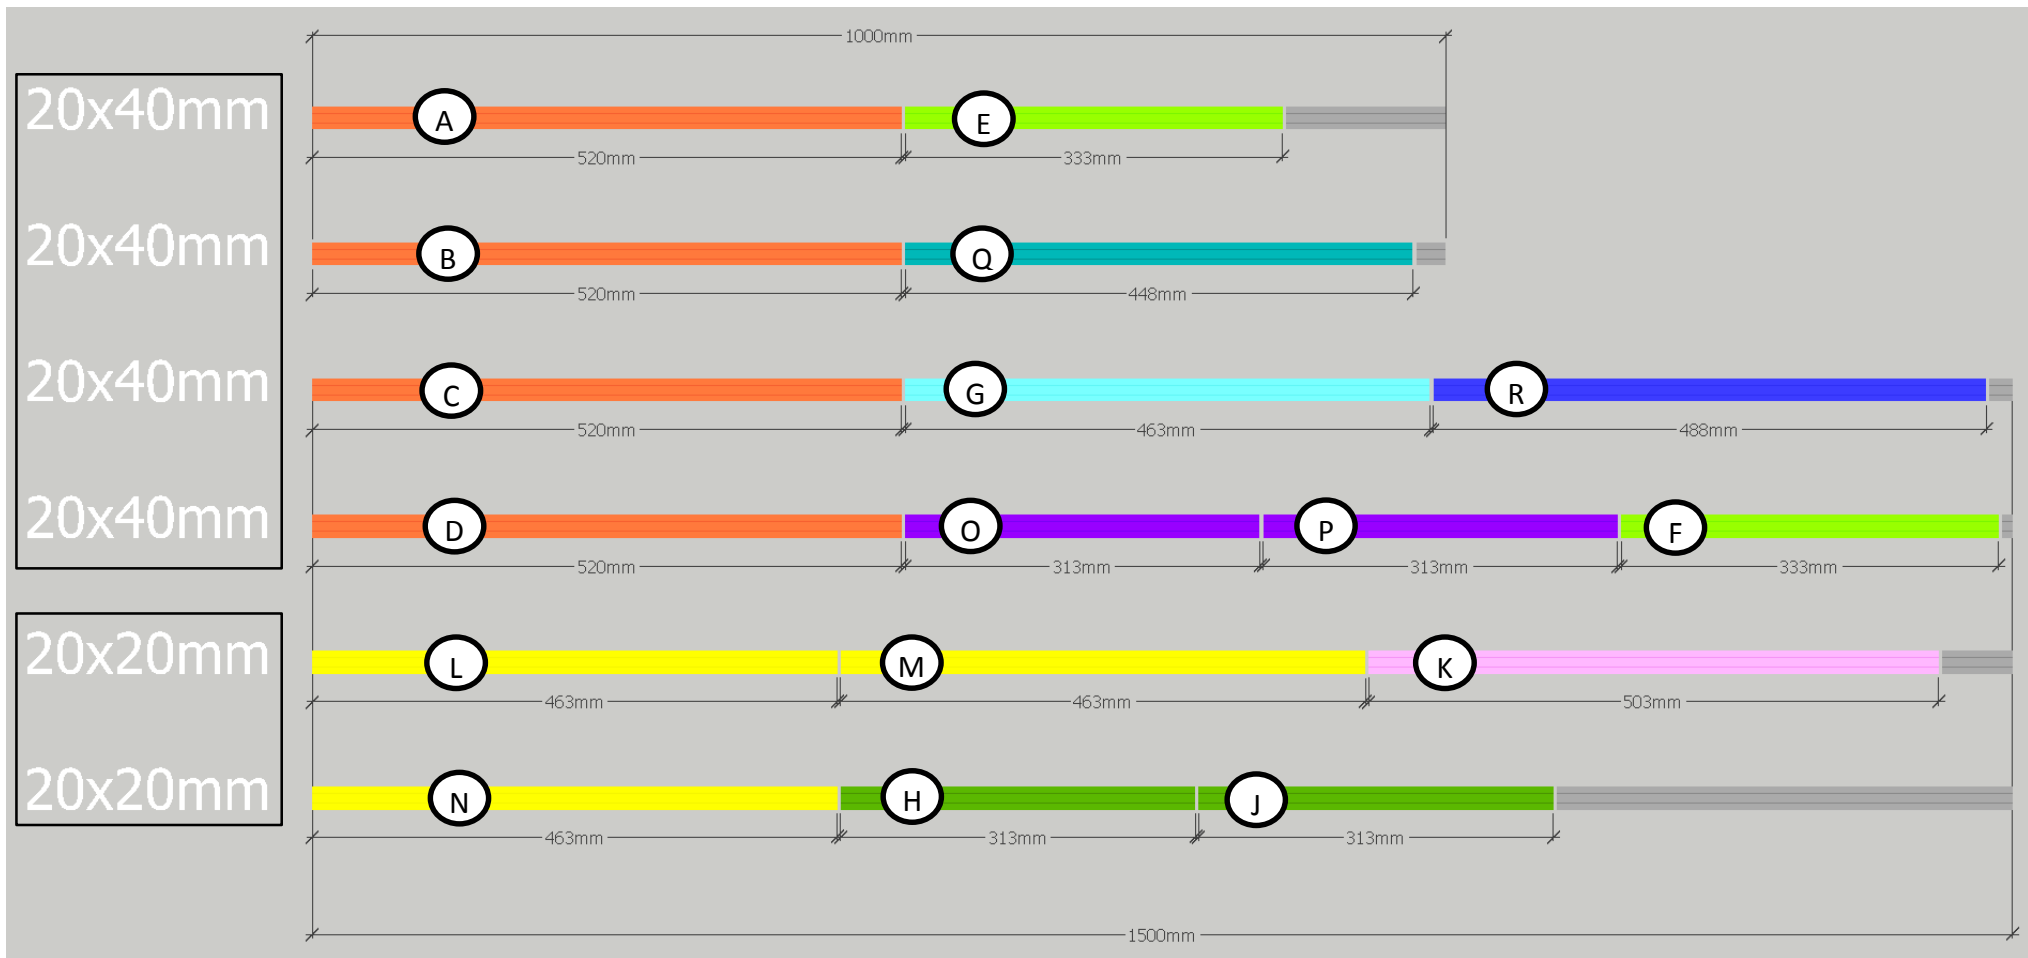

Figure 1: V-slot railing cut diagram
- Layout, measure, and cut the six V-slot rails to the proper lengths as shown in Figure 1. Label alphabetically as shown, these labels will be referenced during assembly.